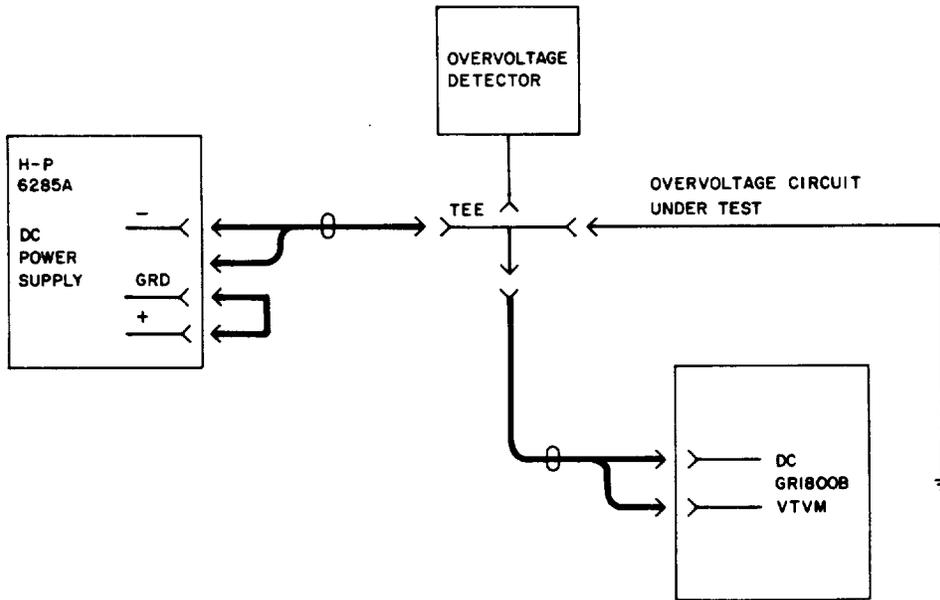

Fig. 3—Arrangement for Making Overvoltage Protection Circuit Calibration Tests
- 28 Disconnect cable connector P20CN from the output terminal of NO. 5 overvoltage detector E31CN. Connect test equipment as shown in Fig. 3. Set the vacuum tube voltmeter to its  $-5$  Vdc range.
34	Disconnect cable connector P21CN from overvoltage detector E32CN. Connect the test equipment as shown in Fig. 3. Set the vacuum tube voltmeter to its $-5$ Vdc range.
40	Disconnect cable connector P22CN normally used at the REF terminal of the klystron output line directional coupler. Connect the test equipment as shown in Fig. 3. Set the vacuum tube voltmeter to its -5 Vdc range.